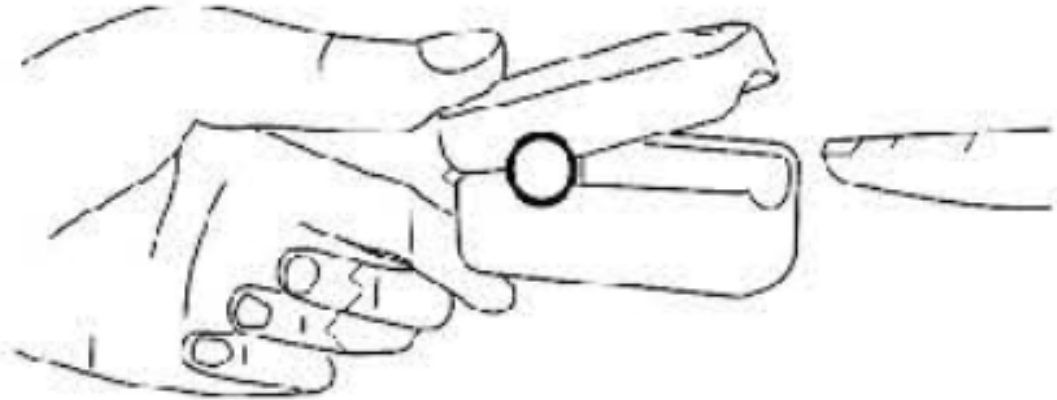

Figure 5
1. After properly installing two AAA batteries, press the lid as shown in Figure 5 and open the clip. Position finger into the rubber cushions of the clip, make sure the finger is in the right position as shown in Figure 5, and then release the clip to close over the finger.